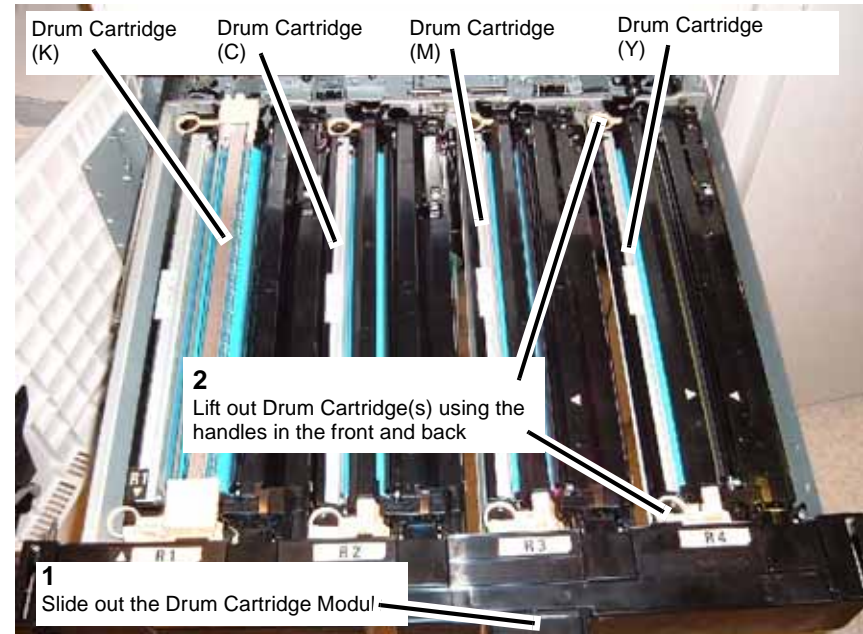

Figure 2 Removing the Drum Cartridge(s)
3. Remove the Drum Cartridge(s) (Figure 2).